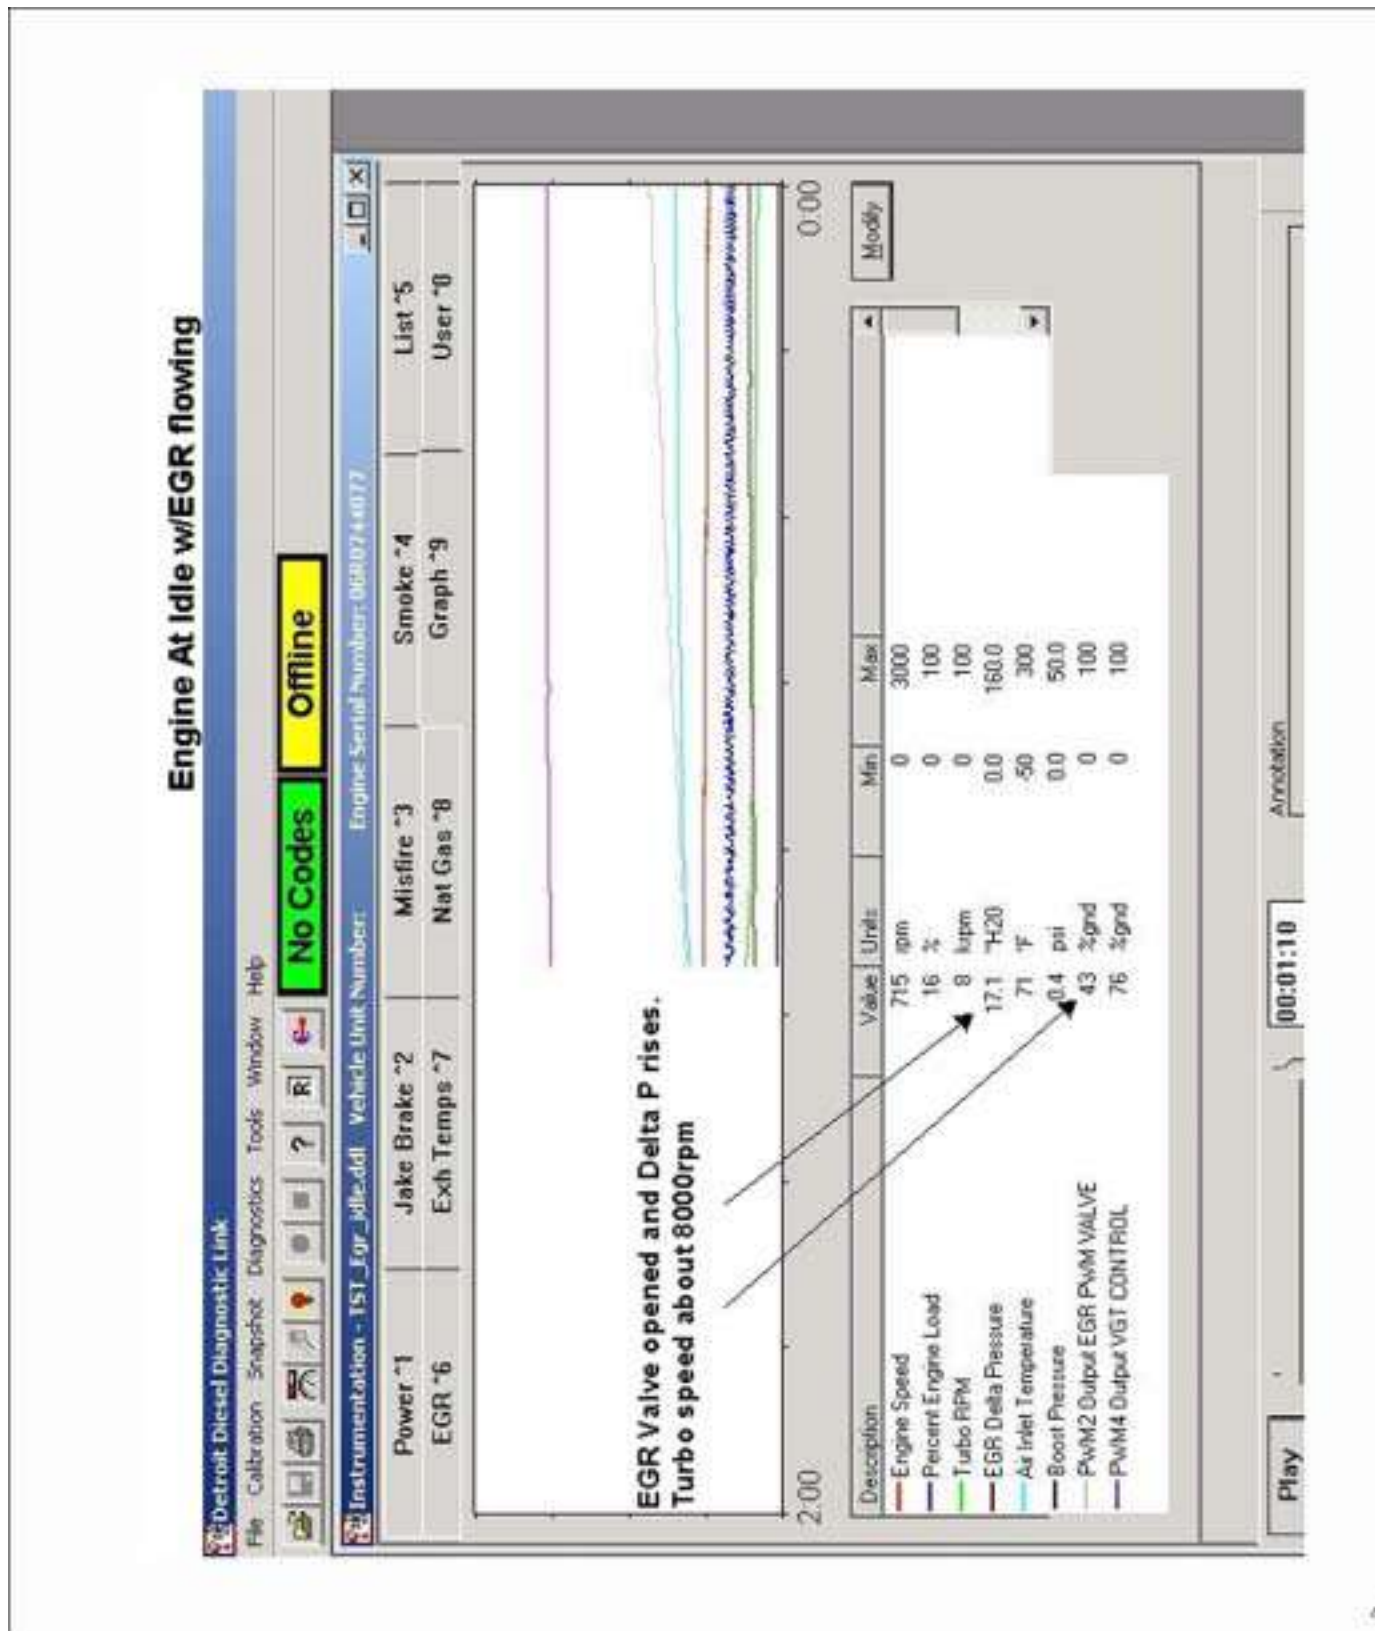

Figure 7-1 Engine at Idle with EGR Flowing
- ☐ Idle operation with EGR. See Figure 7-1.